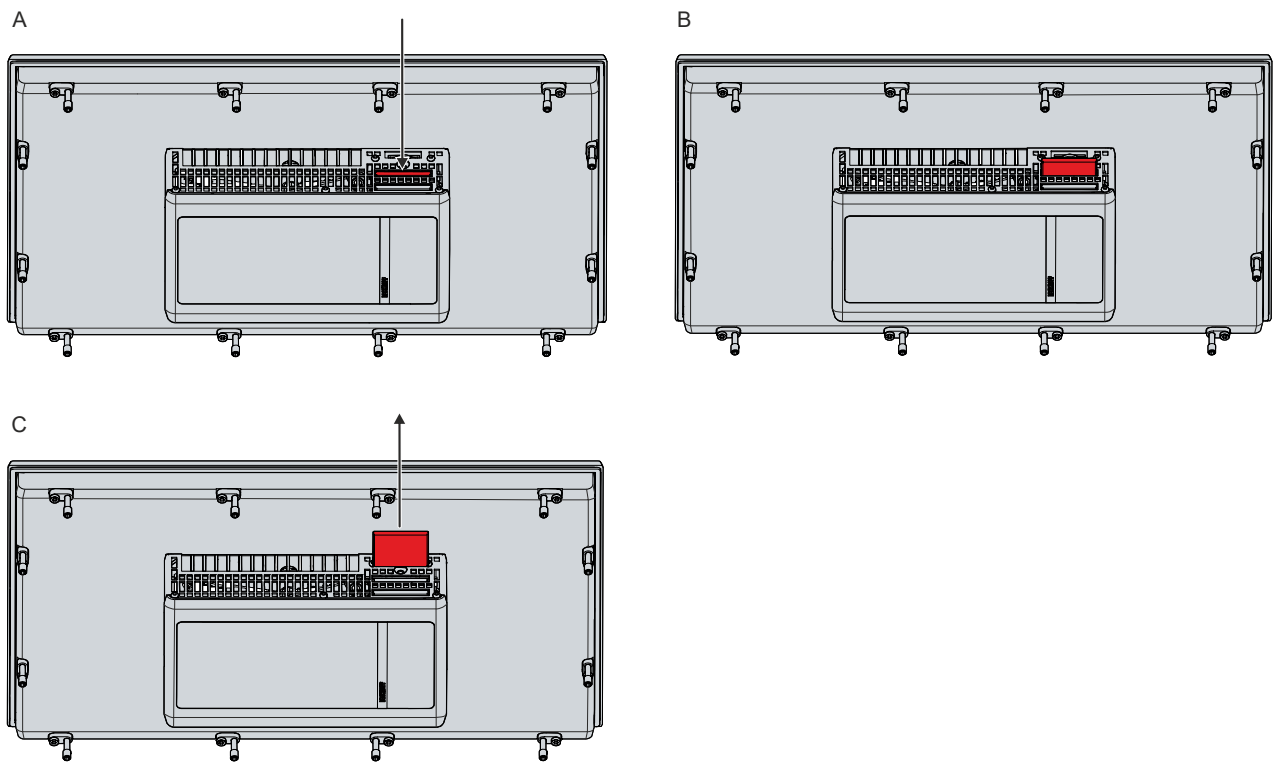

Fig. 27: Replacing the CFast
1. Pull the battery out of the panel PC with needle-nose pliers (see Fig. 27).